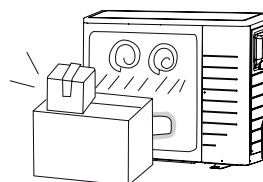

Fig. 10
1. Be sure that nothing obstructs the air outlet or intake vents. (Fig.10)